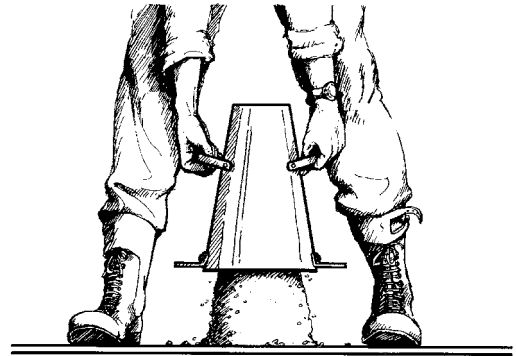

Figure 2
7. Slowly lift the slump mould straight up and off (see Figure 2).